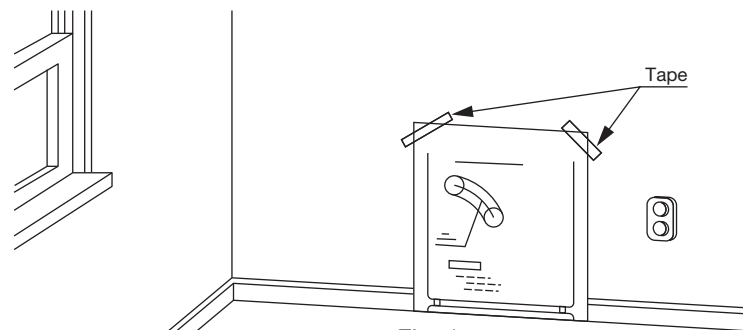

Fig. 4
4. For standard installation, use the template enclosed with the heater to position the hole for the flue pipe. Tack or tape template to the wall at the desired position (See Fig. 4).